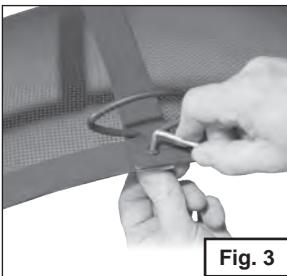

Fig. 3
Insert Screen Bolt (D) into each of the two outer holes of the aligned sections (Fig. 3) and LOOSELY secure with Nuts. **HAND TIGHTEN ONLY AT THIS POINT** (Tightening Nuts will make it more difficult to align middle holes).